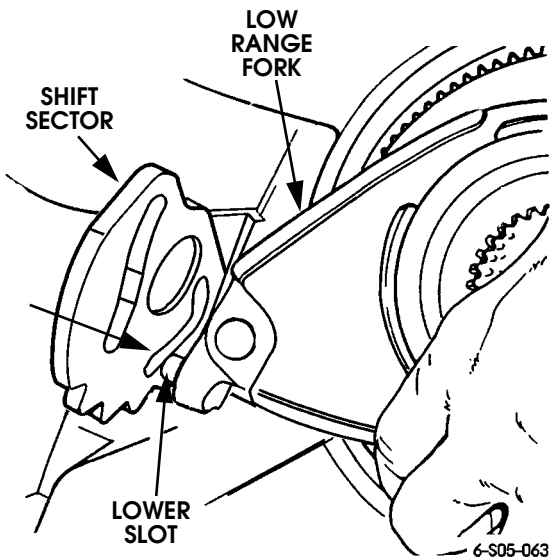

Figure 5-142: Engaging Low Range Fork Pin in Shift Sector
7. Install low range fork and hub. Be sure hub is seated in planetary and that fork pin is seated in shift sector lower slot (Figure 5-142).